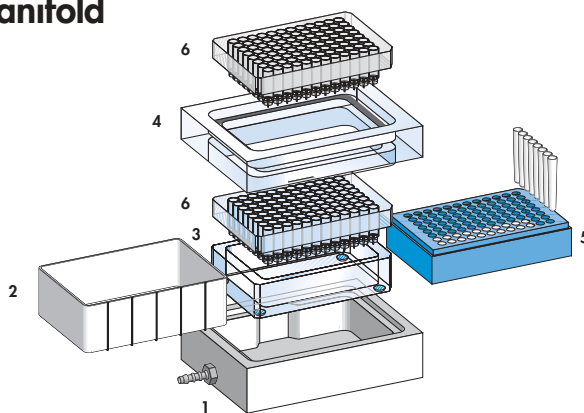

Figure 1. Components of the QIAvac 96 manifold.
- The QIAvac 96 manifold operates with a house vacuum, vacuum pump, or water aspirator. The components of the QIAvac 96 manifold are shown in Figure 1 on page 11.